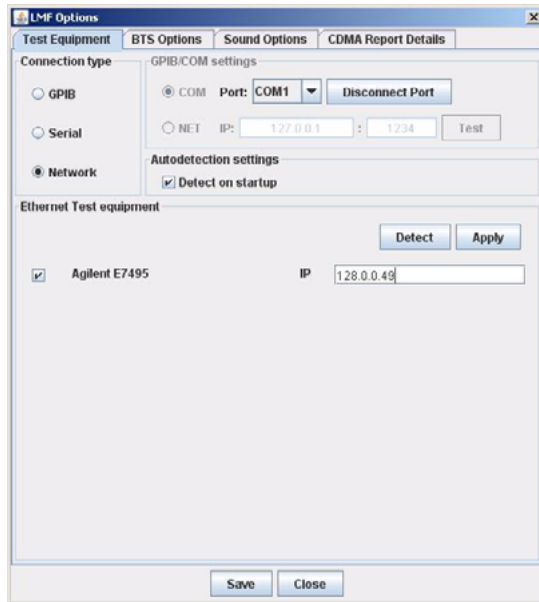

Figure 1-11. BTS Master Ethernet Configuration Editor
4. In the Ethernet Test equipment section, select Agilent E7495, as shown in Figure 1-11.